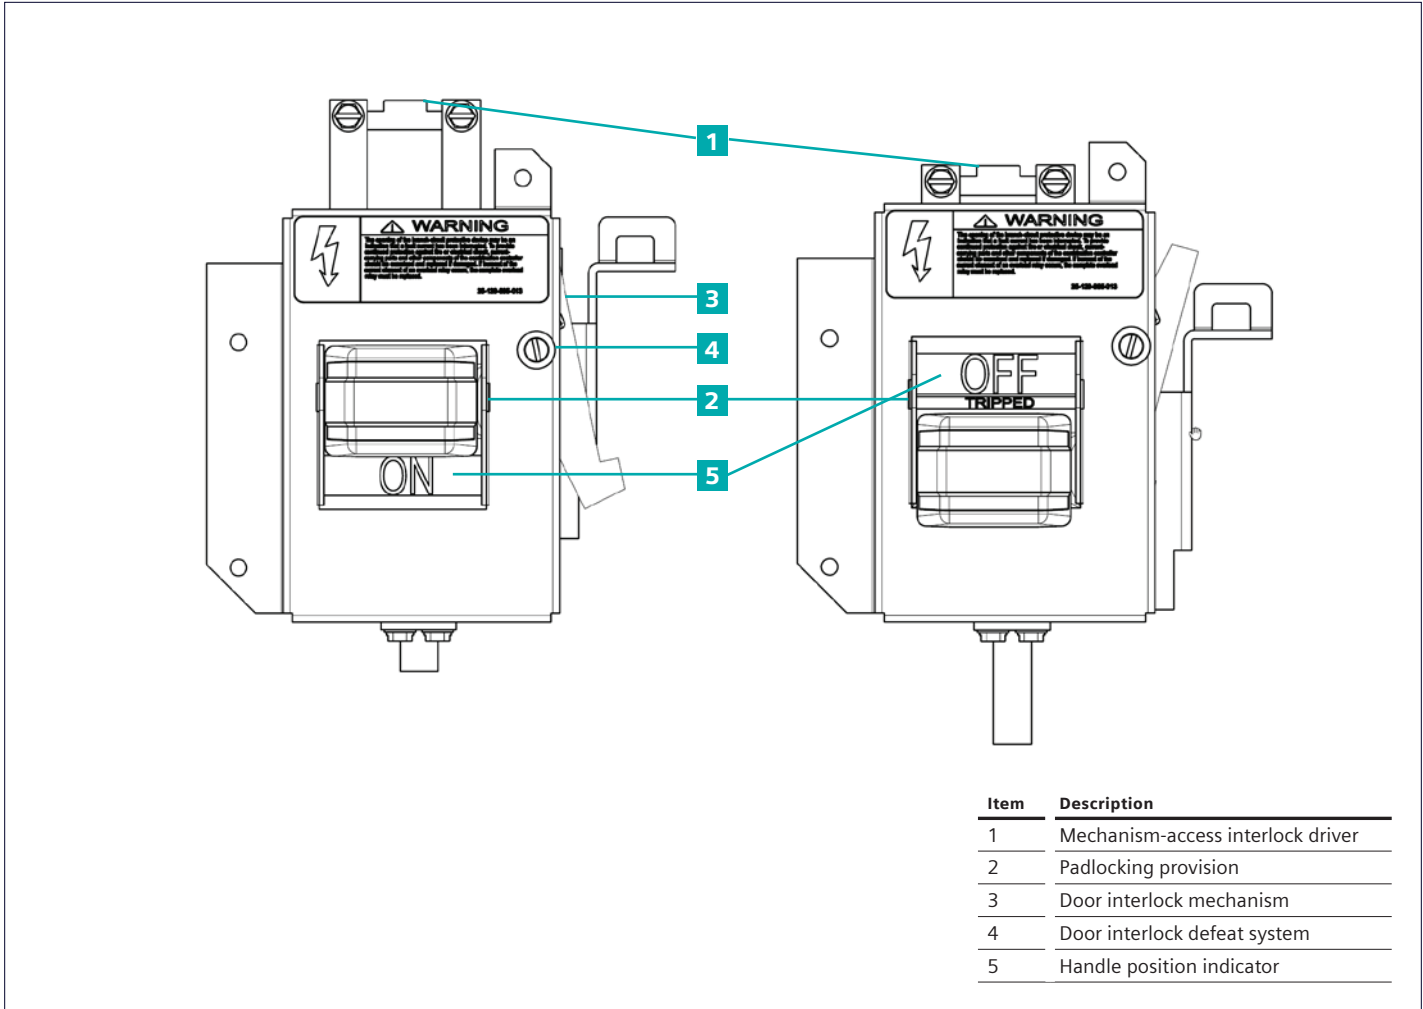

Figure 28: Linear motion operator handle
The operator mechanism for units up to 125 A is mounted to the unit structure by three screws. The operator mechanism for larger units, up to 400 A, is mounted directly to the disconnect device with four screws. In both cases, the screws and then the handle can be removed in order to access the protective device. Figure 28 shows the 125 A disconnect operator. This and the larger operator extend through the door to allow the device to be safely operated with the door closed. The operator is provided with three mechanical safety features to perform the following functions:
3. Door-interlock mechanism: The door interlock prohibits closing or opening the control unit door except when the handle is in the OFF position. As the handle moves to the ON position, the interlock (refer to Figure 28, item 3), pivots behind the door-mounted bracket thus preventing opening of the control unit door.
A provision is made for qualified persons to defeat the door interlock when the handle is in the ON position. This is accomplished by turning the defeater screw (Figure 28, item 4) counterclockwise approximately $\frac{1}{8}$ turn until the door is released.
1. With the circuit breaker or disconnect switch in the OFF position, the latching mechanism fully extended, and the unit door open, defeat the interlock by pushing the top of the lever (Figure 28, item 3) to the left and turn the circuit breaker on and off several times. If the circuit breaker or disconnect switch fails to turn on or if excessive operating resistance is experienced, turn circuit breaker or disconnect switch off. Withdraw the unit and inspect for misalignment of the operator extension(s) or the driver (Figure 28, item 1) and the racking-handle assembly. Make necessary adjustments to correct any misalignment.
2. With the plug-in unit reinstalled in the motor control center, close and secure door. Turn circuit breaker or disconnect switch on. If operating difficulty persists and circuit breaker or disconnect switch fails to turn on, open the door. Inspect the door-mounted portion of the interlock assembly for damage or distortion. Inspect the interlock lever (Figure 28, item 3) mounted on the right side of the operator for damage, freedom of movement, and its ability to rest firmly against the boss on the plastic handle without assistance. If damage or unusual wear are detected, all affected parts must be replaced.
If operating difficulty persists, unlatch the $\frac{1}{4}$ turn fasteners and open the door, then slowly close it observing the point of contact between the interlock lever on the operator (Figure 28, item 3) and the door-mounted portion of the interlock. The ramp on the J-shaped bracket mounted on the door should first engage the moveable interlock lever on the operator at a point approximately $\frac{1}{16}$ " below the top right corner of the interlock lever. If the point of engagement does not occur at this point, gently bend the pointed extension of the door-mounted portion up or down slightly to the proper position. Before making this adjustment, verify the plastic handle is centered in the door cut out when the door is closed.